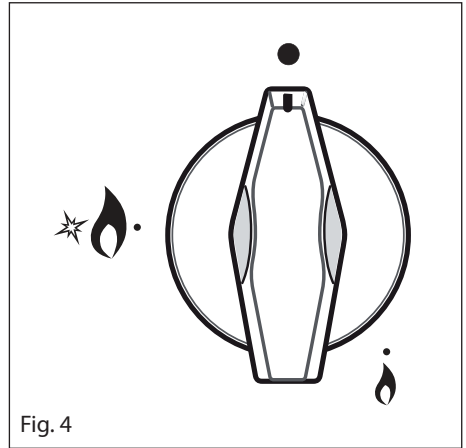

Fig. 4
Gas flow to the burners is adjusted by turning the knobs (illustrated in fig. 4) which control the safety valves.
1. Press in the corresponding knob and turn counter-clockwise (fig. 5) to the full flame position marked by the “*” symbol (fig. 4); hold the knob in until the flame has been lit.